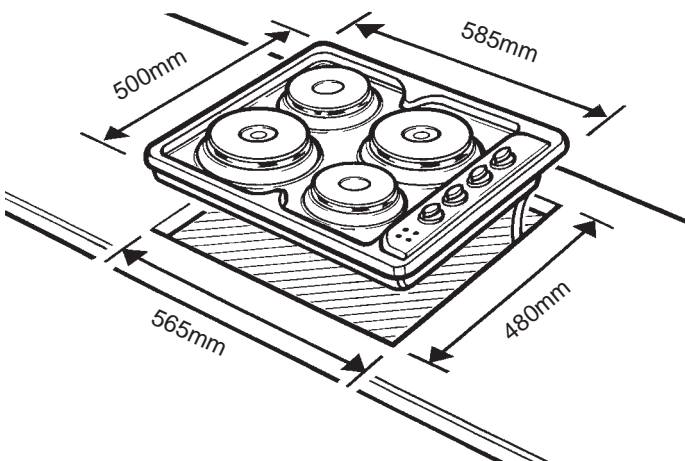
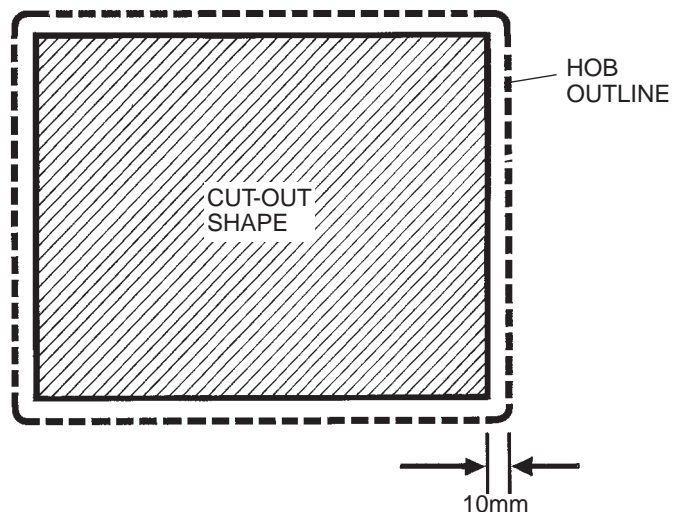

Figure 2
Figure 3
4. Lift the unit away to a safe distance, and check that the outline produced corresponds with the hob dimensions (585 x 500) in Figure 2.
5. Mark the cut-out (565 x 480 as in Figure 2) onto the masked work surface. The cut-out line should be in a central position so that there is an even space of 10mm between the cut-out shape and the hob outline, all the way round (Figure 3).